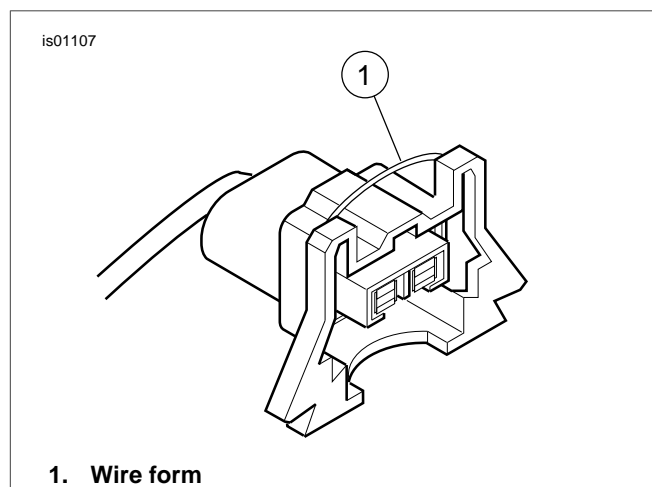

Figure 1. Connector With Wire Form
- a. See Figure 1. *Kit 32136-05A*, press wire form to remove connector.